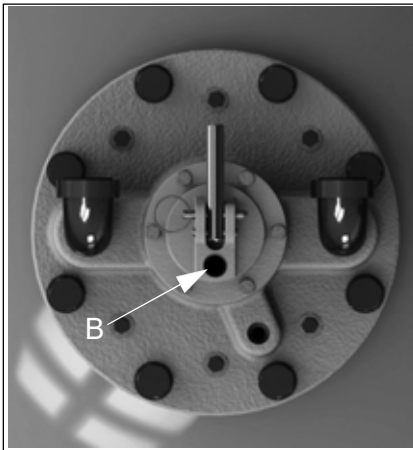

Fig. 9: Connection of the control line at the valve
- Press the control line into the control connection (B, Fig. 9) of the ventilation valve.